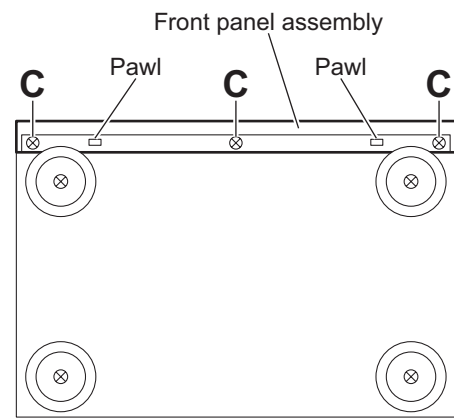

Fig.2
3.1.2 Removing the front panel assembly (See Fig.2, 3)